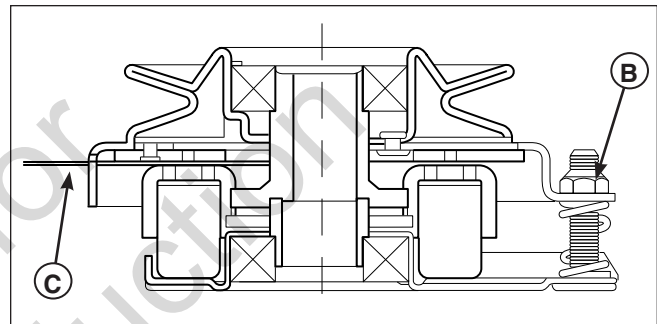

Figure 47. Adjust PTO Clutch
3. Insert a .016"-.018" (0,40-0,45mm) feeler gauge (C) through each window, positioning the gauge between the rotor face and the armature face as shown in Figure 47.
4. Alternately tighten the adjustment nuts (B, Figure 47) until the rotor face and armature face just contacts the gauge.